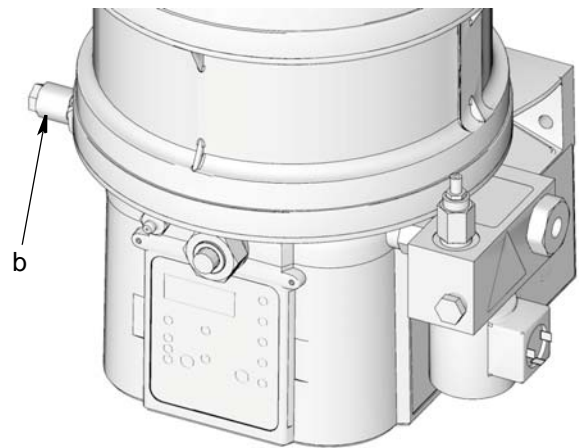

FIG. 7
4. Install banjo assembly (b) to the G3 pump element on the side that does not have a vent valve (FIG. 7).